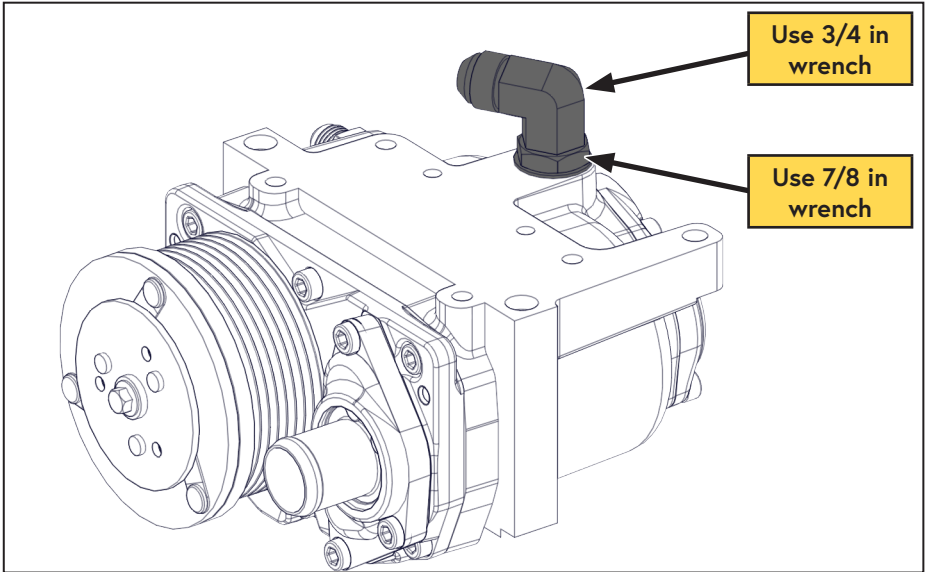

Figure 10 — Compressor discharge fitting
- The compressor discharge fitting will be oriented towards the oil return fitting, use a 3/4 in wrench to hold the fitting and a 7/8 in wrench to ensure the locking nut is tight (Figure 10).